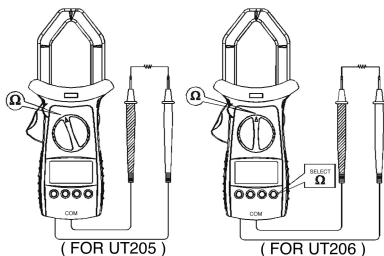

FIG 5
C. Measuring Resistance (See figure 5)